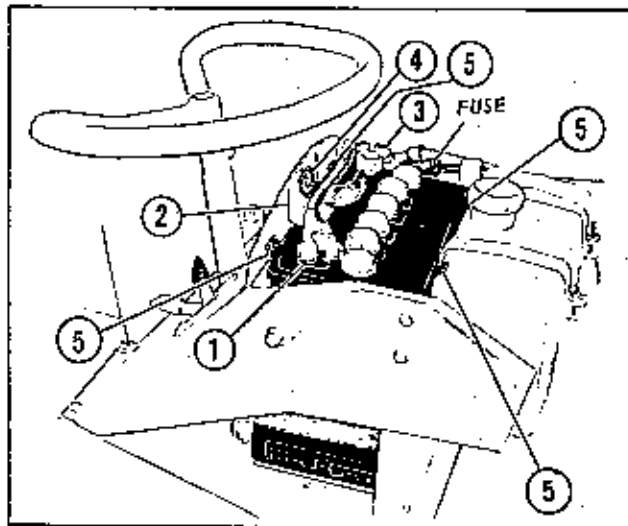

Figure 8
Select the large rubber covered battery cable "Z" and attach the small terminal end along with the larger terminal end of the short wire "BI", with fuse holder to the left hand terminal of the starter switch (as viewed from the rear of the tractor). Secure with hex nut and lockwasher. The other short wire "CG" is connected to the left hand terminal of the ammeter (as viewed from the rear of the tractor). Secure with hex nut and lockwasher. Install fuse and holder in clip on left side panel as shown in Figure 8.
Place the battery in position between the fuel tank and the dash panel, with the battery resting on the battery support. The terminals of the battery are to face toward the rear of the tractor. Connect the battery clamp of the heavy cable #1, Fig. 8, from the starter switch to the positive terminal of the battery. Install the battery hold-down bracket as shown at #2, Fig. 8. Place the terminal of the ground wire #3, Fig. 8, over the hex capscrew holding the battery clamp in position and secure with hex nut and lockwasher. Connect the ground wire to the battery (negative terminal) as shown at #4, Fig. 8. Re-check all terminal connections for tightness and place the battery insulation sheet over the battery bending the ends of the insulation to wrap down over the ends of the battery. Replace and fasten the tractor hood.
INSTALL THE (4) FELT GASKETS TO THE GAS TANK AND TO THE DASH ASSEMBLY AS SHOWN AT #5, FIG. 8.